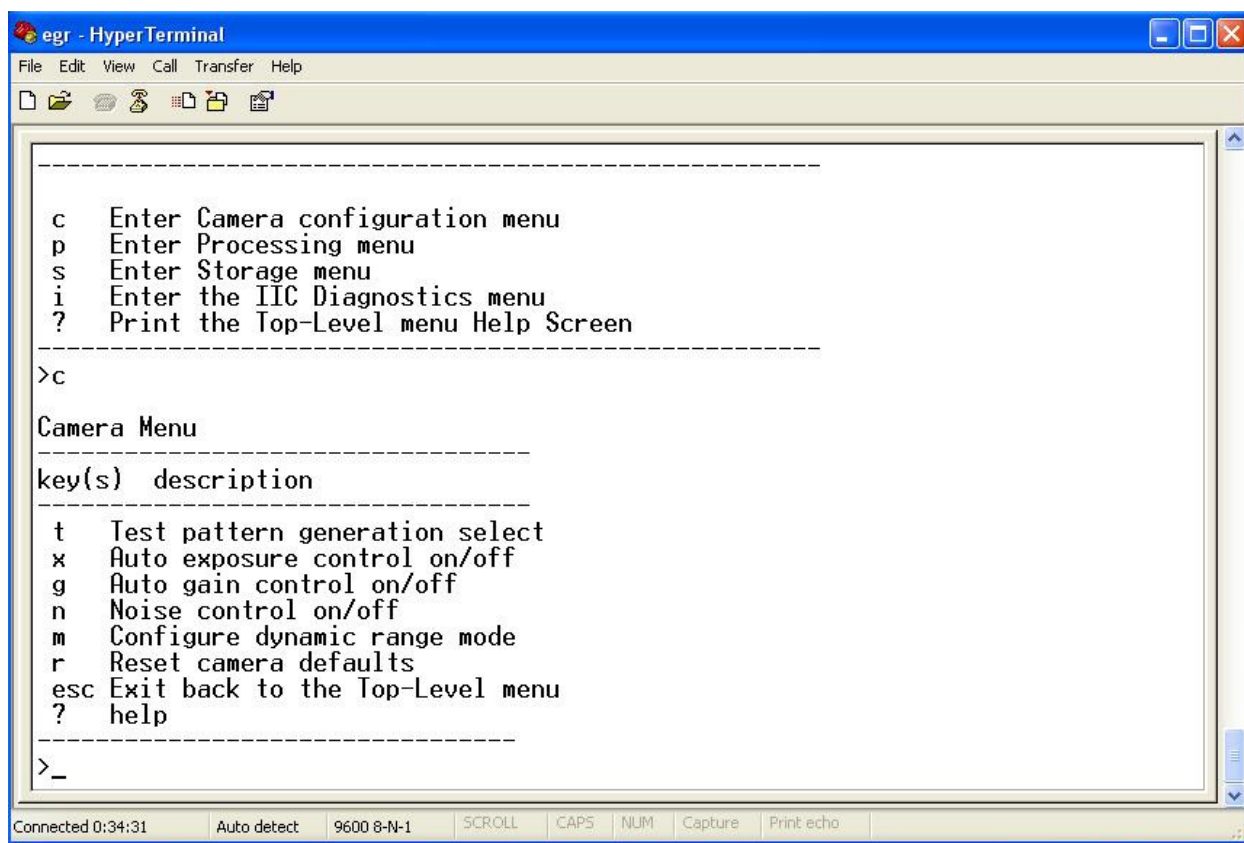

Figure 12: Camera Buffer Demo Configuration Menu
3. Type "C" to enter the Camera Configuration Menu (as show in Figure 12).